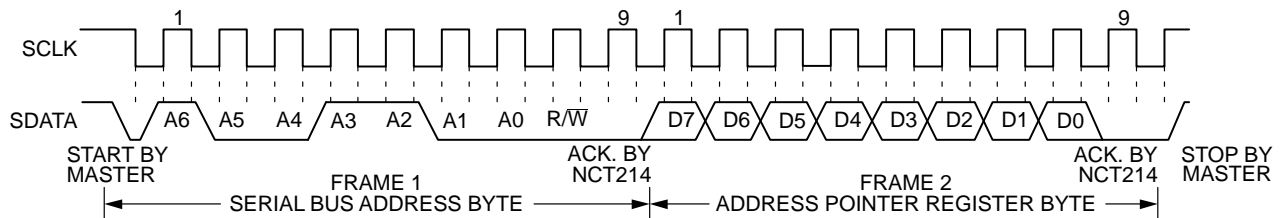
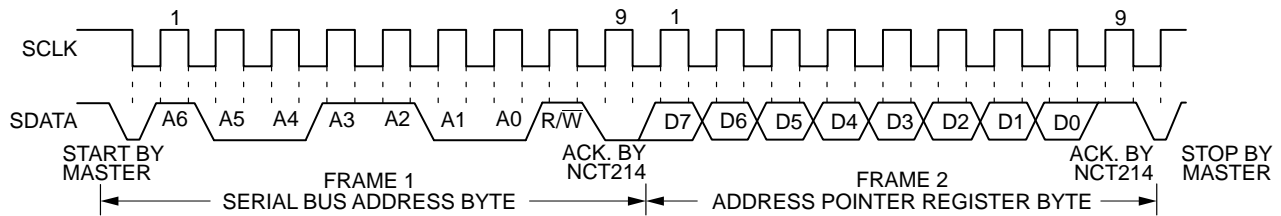

Figure 16. Writing to the Address Pointer Register Only
Figure 17. Reading Data from a Previously Selected Register
- If the address pointer register value of the NCT214 is unknown or not the desired value, it is first necessary to set it to the correct value before data can be read from the desired data register. This is done by writing to the NCT214 as before, but only the data byte containing the register read address is sent, because data is not to be written to the register see Figure 16. A read operation is then performed consisting of the serial bus address,  $R/\bar{W}$  bit set to 1, followed by the data byte read from the data register see Figure 17.
- If the address pointer register is known to be at the desired address, data can be read from the corresponding data register without first writing to the address pointer register and the bus transaction shown in Figure 16 can be omitted.